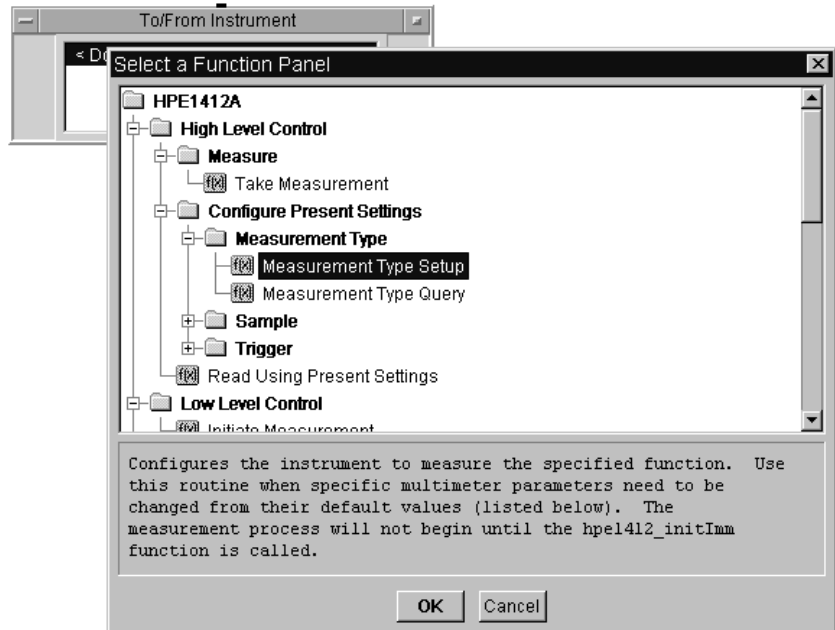
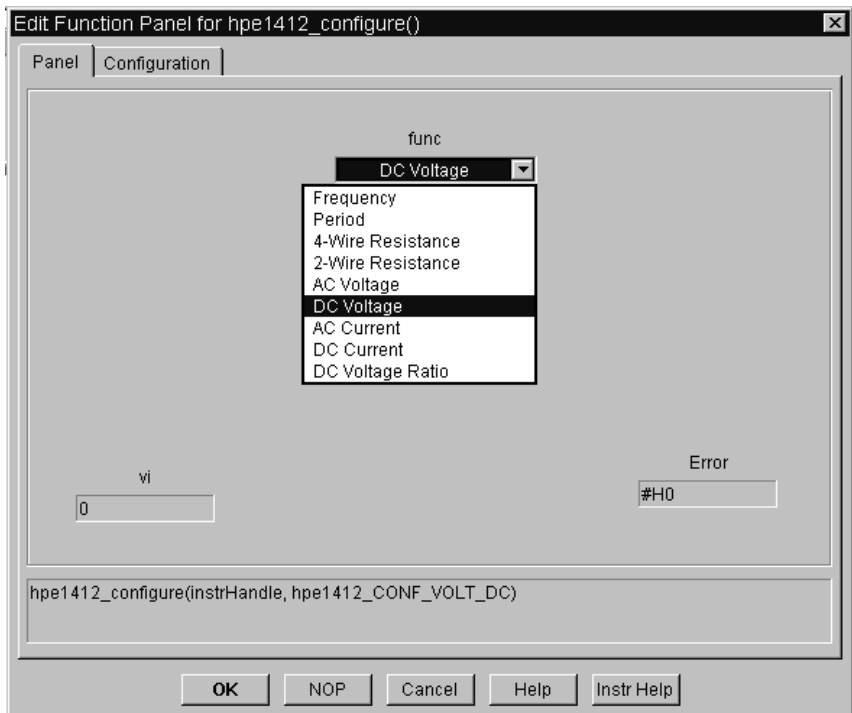

Figure 106 Selecting a Function for a VXIplug&play Driver
Figure 107 The hpe1412 Edit Function Panel
- 5 Double-click on the transaction bar labeled <Double-click to Add Function>, and Select a Function Panel is displayed as shown in Figure 106. Figure 107 shows the hierarchy of functions in the function panel. Notice that Help for the item selected is displayed in the dialog box.
- 6 Click **Configure Present Settings** ⇒ **Measurement Type** ⇒ **Measurement Type Setup**. The **Edit Function Panel** is displayed. Under **func**, click to display the drop-down list. Select the default **DC Voltage**, as shown in Figure 107.